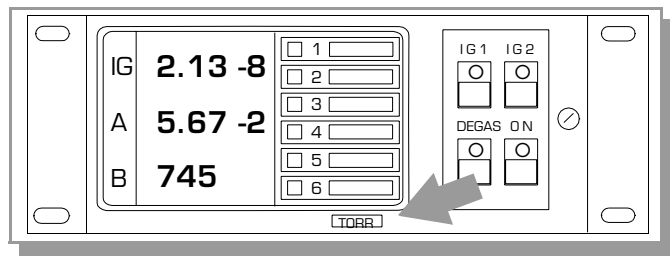
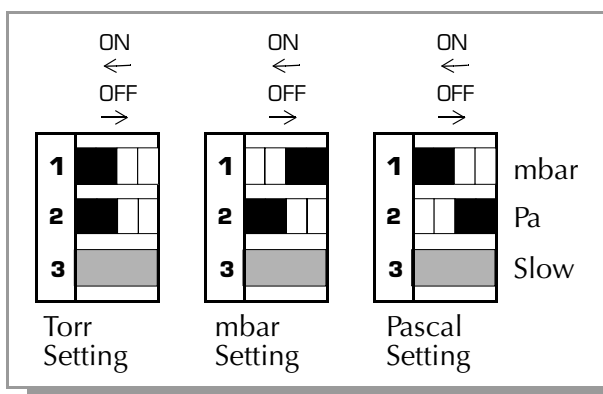
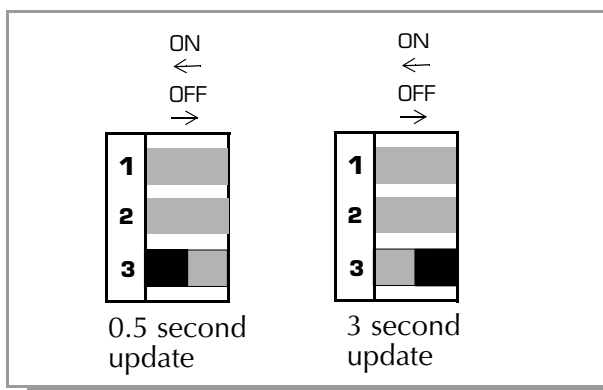

Figure 2-2 Control Unit Front Panel Showing Location of Units of Measure Label.
Figure 2-5 Pressure Display Units of Measure Switch Settings.
Figure 2-8 *Pressure Display Rate of Update Switch Settings.*
2. If none of the above options are present and if the pressure display units of measure are correct (See Figure 2-2.), and you do not wish to change the degas power timer from the factory setting of 10 minutes, skip to Chapter 3 Installation.
1. Skip to Section 2.1.3 on page 2-4 if units of measure are as desired. See Figure 2-2 and Figure 2-5.
2. If you wish to change the pressure display units of measure, change the settings of the units of measure switches on the Electrometer module, and on the Dual Convection Gauge module if present, as shown in Figure 2-5.
1. Skip to Section 2.1.4 on page 2-5 if units of measure are as desired. See Figure 2-2 and Figure 2-8.
2. If you wish to change the pressure display rate of update, change the setting of the rate of update switch on the Electrometer module, and on the Dual Convector Gauge module if present, as shown in Figure 2-8. Setting this switch “ON” will enable pressure averaging. The display will update about every three seconds with the switch “ON,” and 0.5 seconds with the switch “OFF.”